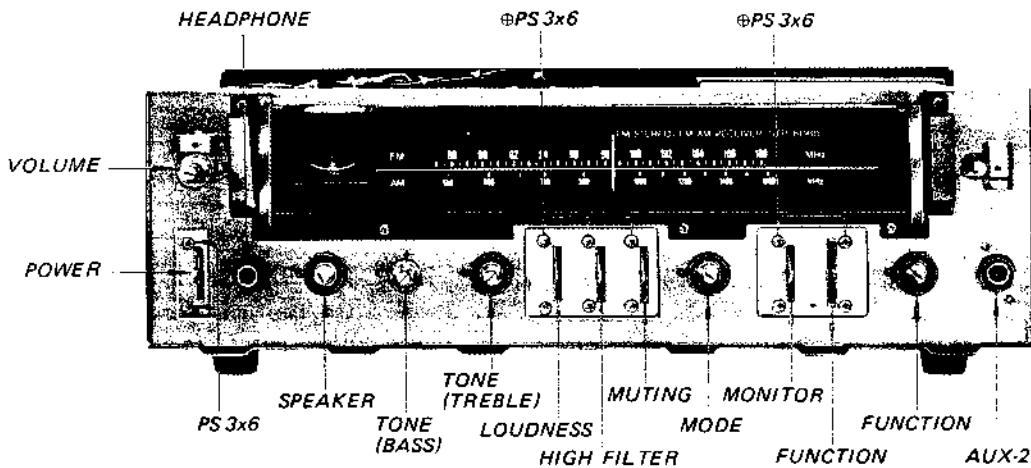

Fig. 2-16. Control and switch replacement
Prepare for replacing any of the controls or switches by removing the wooden case as described in Procedures 2-3 and 2-4. Refer to Fig. 2-16.
1. Remove the two screws ( $\text{#PS } 3 \times 6$ ) securing switches to the front subchassis as shown in Fig. 2-16.
*SPEAKER, MODE, FUNCTION (1) Switches*
2. Remove the hex nuts that secure the switches to the front-subchassis as shown in Fig. 2-16.